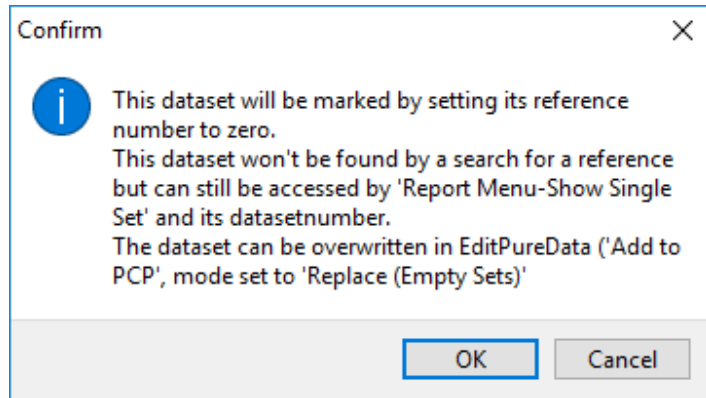

Figure 29: Confirmation of data set removal
2. Replace (Specify Sets): The datasets will replace existent datasets. The user has to specify the dataset number (see Figure 29 Data Set List - Replace Mode).